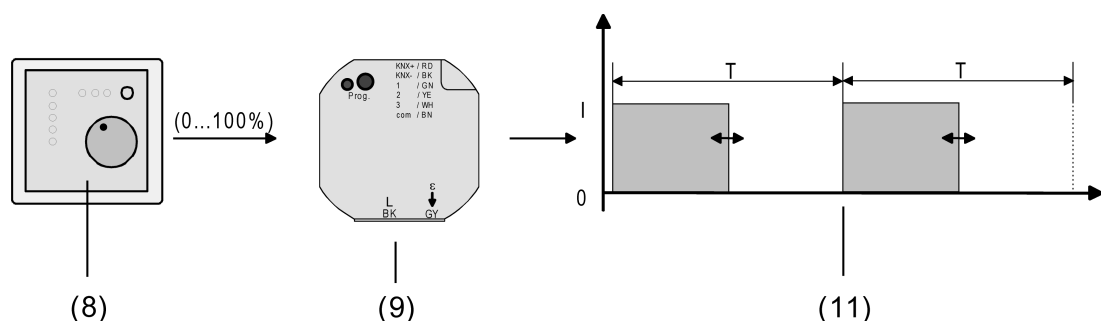

Figure 18: Command value principle for constant command value
- (8) Room temperature controller (command value "1-bit")
- (9) Heating actuator
- (10) Switching output signal for valve drives
In normal operation, the value telegram received via the 1-byte "Command value" object is converted by the device into an equivalent pulse width modulated switching signal at the valve outputs (Figure 18). Taking the cycle time (T) settable in the device into account, the average output signal resulting from this modulation is a measure of the centred valve position of the control valve and thus a reference for the set room temperature (see "Pulse width modulation for constant command values and constant valve setpoint positions").